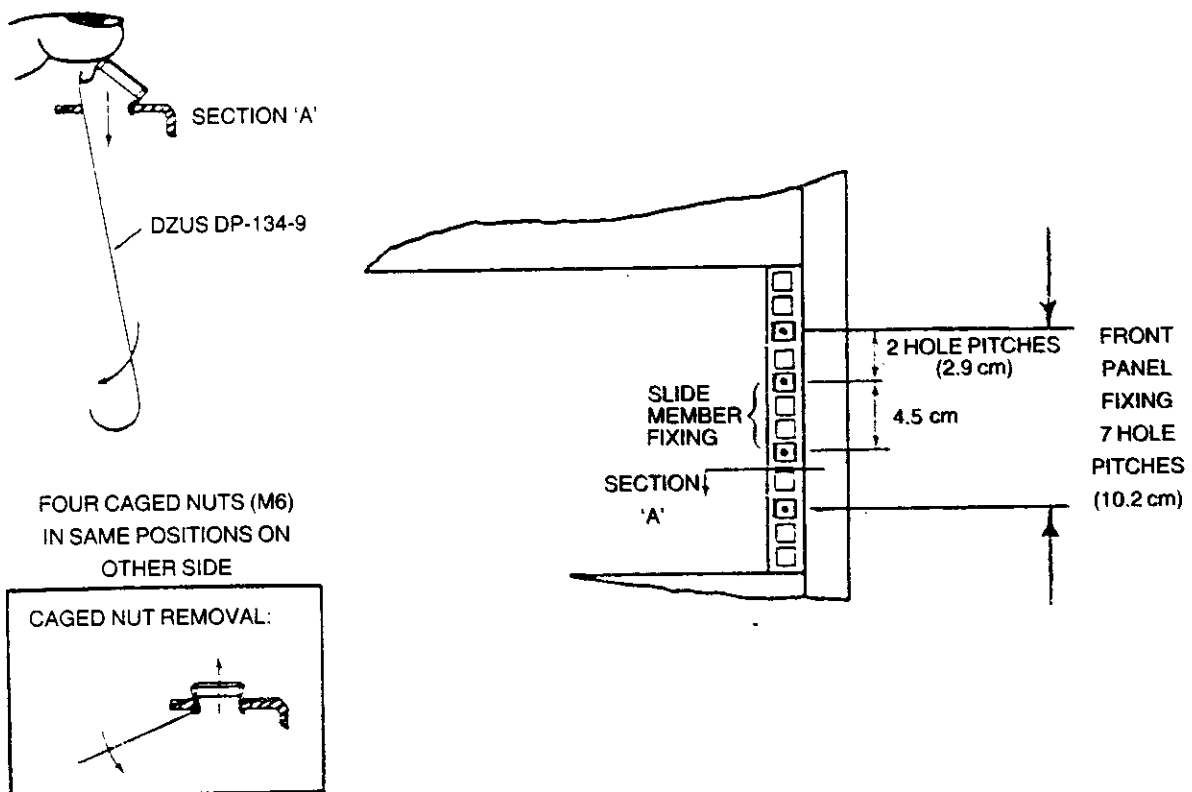

Fig. 2.7 Cage nut insertion in Imrak Series 80 (and similar) cabinets
4. Fit the **M6 caged nuts** for outer slide member and rack ear fixing into the rack, in the positions shown in Fig. 2.7. How to insert and remove caged nuts is shown in the figure detail.